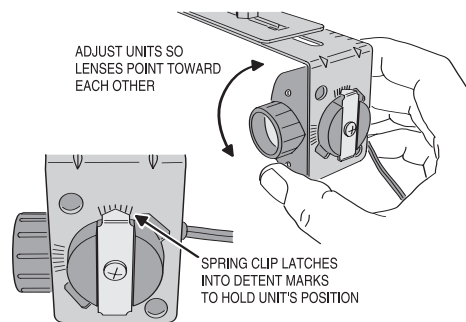

Figure 3 Adjusting Beam
- A Adjusting the beam (Figure 3).